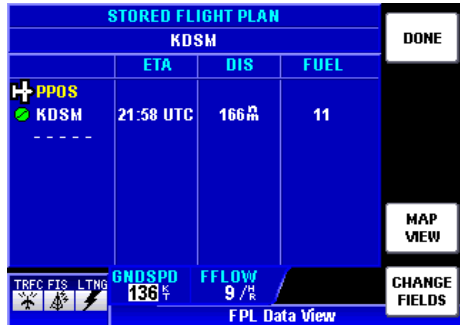

Figure 1-161
10. With the cursor over the **GNDSPD** value, press the **USE ACTUAL** Softkey to return the ground speed to the actual GPS ground speed as shown in Figure 1-161. Note also that the **ETA** and **FUEL** values have also returned to actual values.